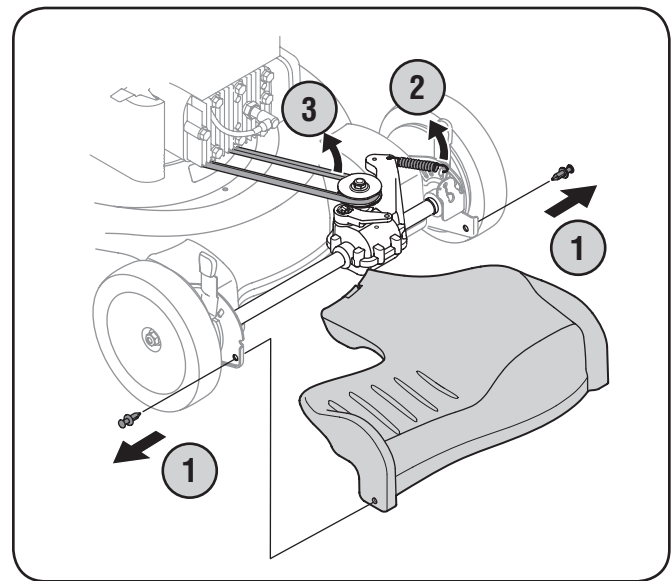

Figure 7-2
1. Remove the front drive cover by sliding off the two plastic rivets on each side of the cover with a screwdriver. See Fig. 7-2.
3. Push transmission up a little and slide belt off the transmission pulley. See Fig. 7-2.